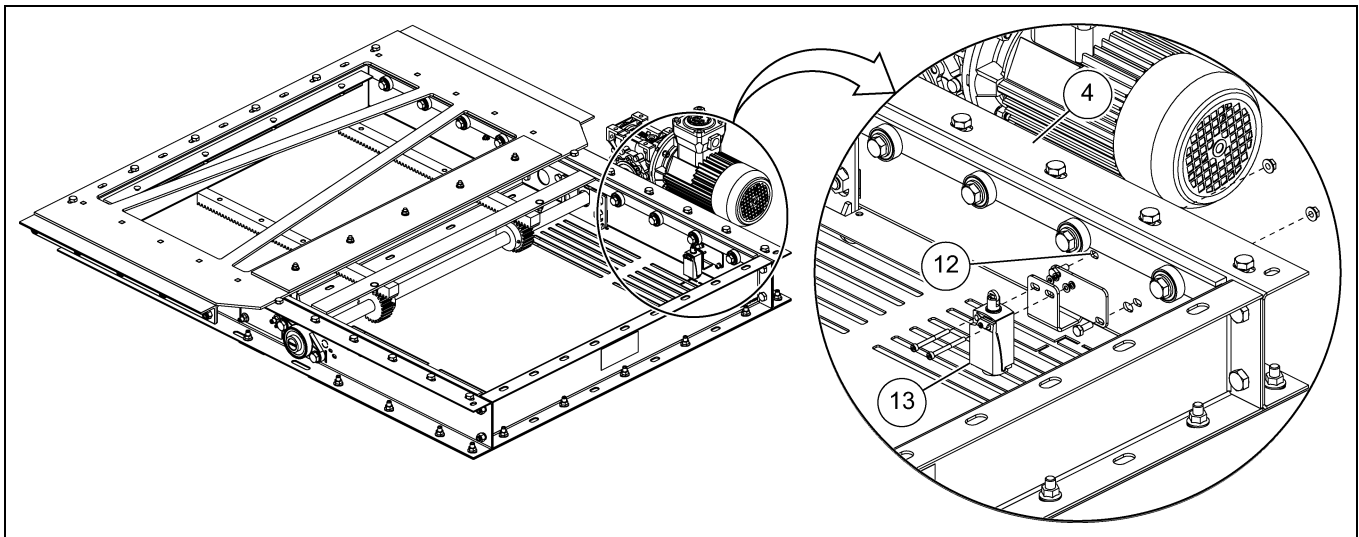

Figure 3G
2. Install the limit switch (13) to the inside of the gate frame (4). Knock out the hole (12) where indicated to install the switch through the gate frame. (See Figure 3G.)